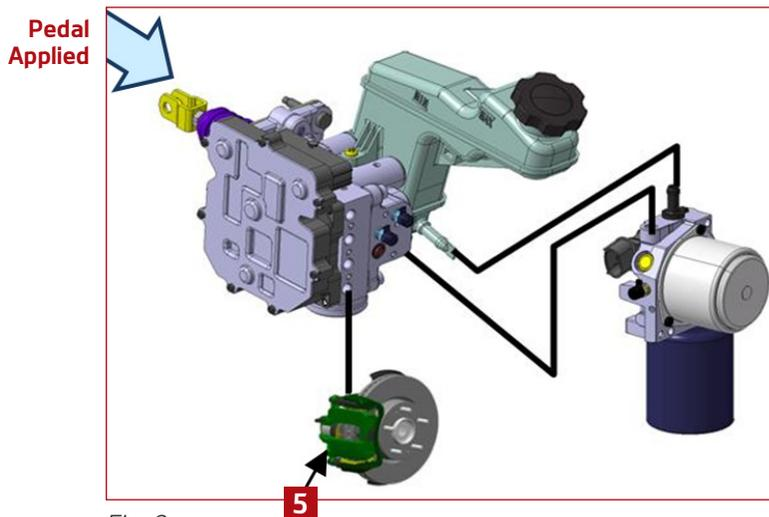

Fig. 9.
- Pressure Bleed + brake pedal at calipers **5** (fig. 9)